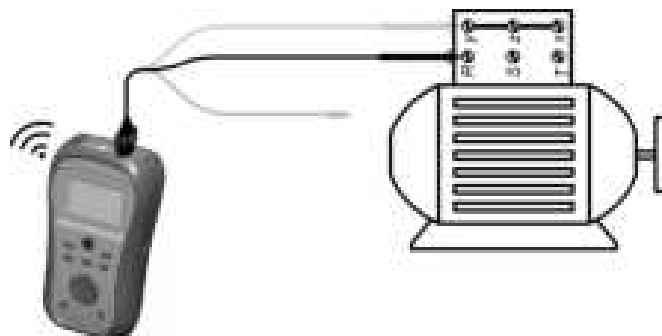

Figure 5.14: Universal test cable application
- ☐ **Connect** test leads to the tested object (see *figure 5.14*).